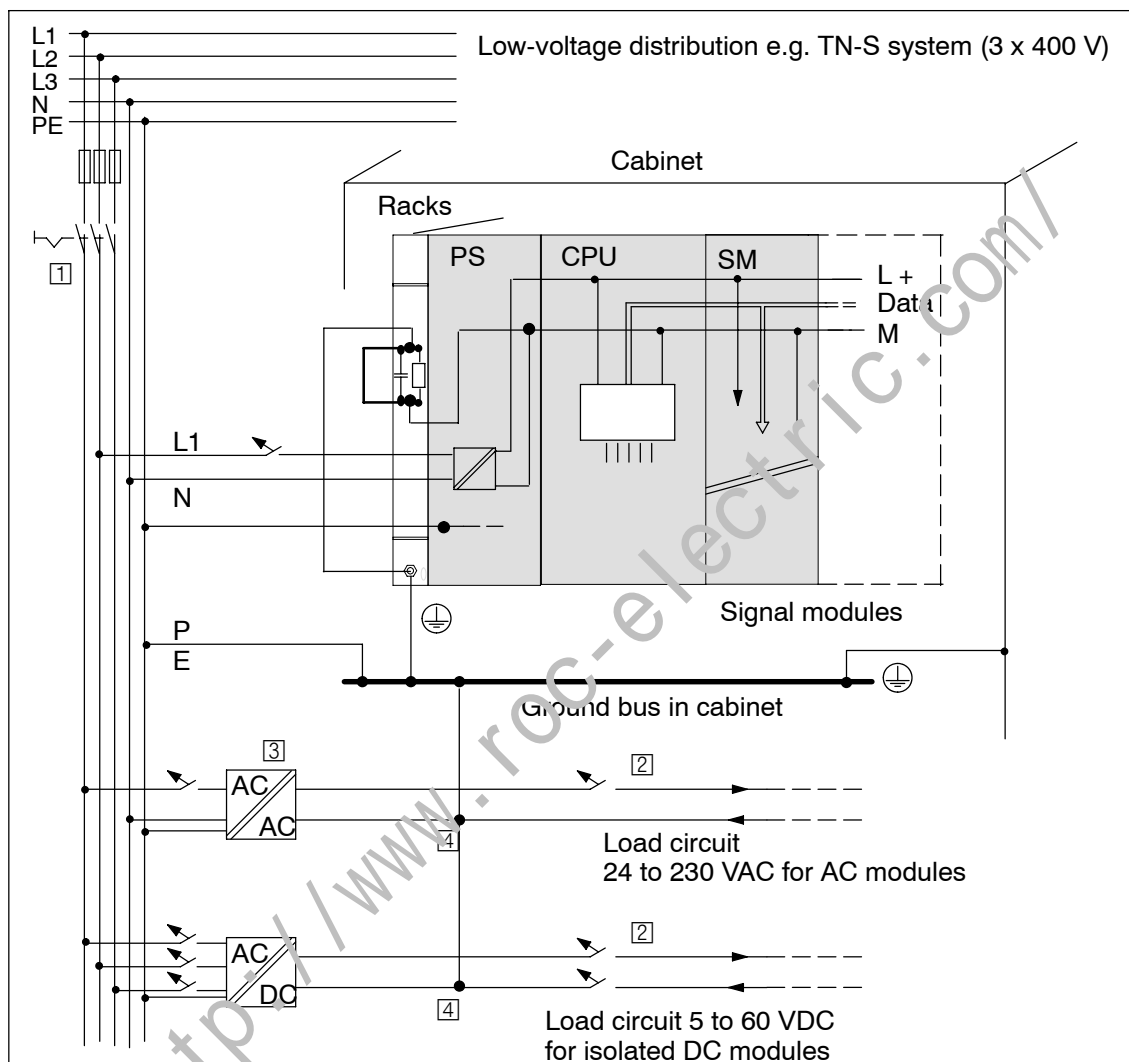

Figure 4-1 Operating the S7-400 from a Grounded Supply
Various components and protective measures are specified for assembling a full installation. The types of components and whether the protective measures are mandatory or recommended depends on the VDE specification applying to your installation, VDE 0100 or VDE 0113. The following table relates to Figure 4-1.
Reliable functional safety is provided by the common reference potential (ground). Provide a detachable connection to the protective ground conductor at the load current power supply (Terminal L- or M) or on the isolating transformer (Figure 4-1, ④). In the event of faults in the power distribution, this will facilitate the locating of ground faults.
Shown in Figure 4-1 is the position of the S7-400 in the overall installation (load current power supply and grounding concept) with supply from a TN-S system.